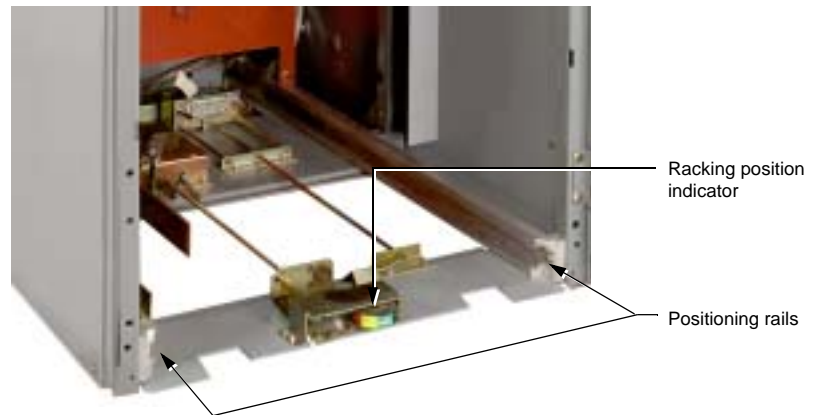

Figure 9: MASTERCLAD Switchgear Circuit Breaker Compartment
2. Verify that the racking position indicator located at the bottom of the circuit breaker compartment door (see Figure 9) reads “TEST/DISCONNECT”.
4. Align the G&T device rollers with the positioning rails (see Figure 9) mounted on the side walls of the circuit breaker compartment.